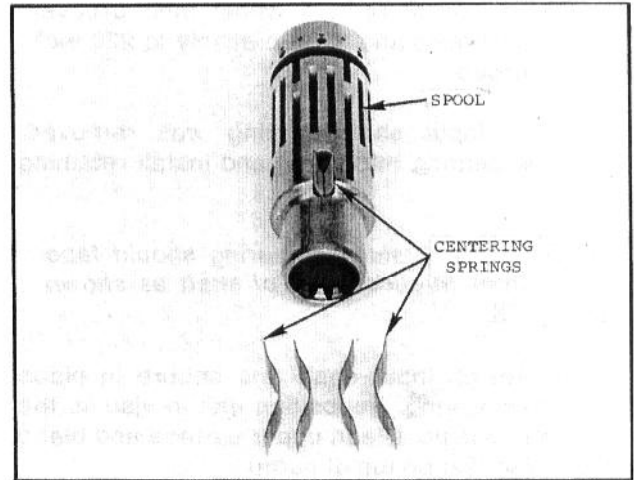

FIG. 23 — CORRECT POSITIONING OF CENTERING SPRINGS
8. Remove centering spring set (Fig. 23) from spool. Thoroughly clean all parts of the hand pump in clean solvent and blow dry with air.
11. Position the six centering springs, Fig. 23, on the bench. Insert one pair of springs into the spool slot so the arch is in the middle. Now insert the remaining springs, one at a time, between the installed springs. (Alternate sides each time.)